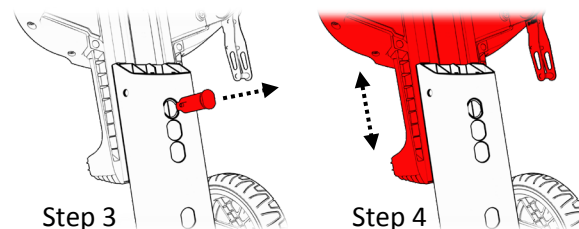

Figure 25 Seat height adjustment holes
3. Once the bracket is removed you should be able to remove the bulky metal pin (located in one of the four adjustment holes). Please keep holding the seat in its place! Remove the pin while holding the seat with your other hand (see Figure 25, Step 3).
4. Now you can adjust the seat height to any of the four holes and reinsert the pin to hold it in place (see Figure 25, Step 4).